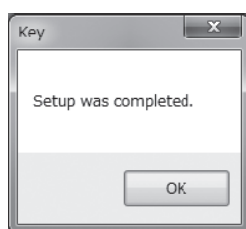

Fig.100
- ④ Click "OK" to change the settings to the inputted values, and then click the "OK" button in the displayed message box (Fig. 100) to complete the setting process.